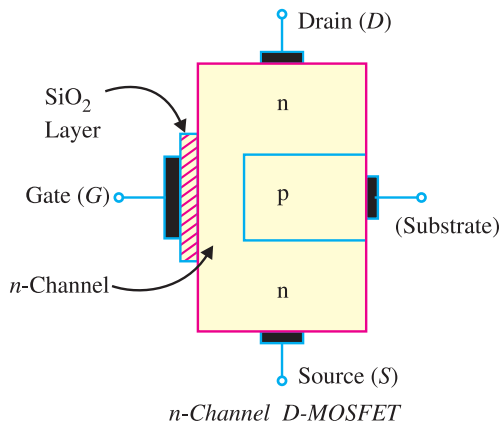

Fig. 19.43
1. D-MOSFET. Fig. 19.43 shows the constructional details of *n*-channel *D-MOSFET*. It is similar to *n*-channel *JFET* except with the following modifications/remarks :
(i) The *n*-channel *D-MOSFET* is a piece of *n*-type material with a *p*-type region (called *substrate*) on the right and an *insulated gate* on the left as shown in Fig. 19.43. The free electrons (Q it is *n*-channel) flowing from source to drain must pass through the narrow channel between the gate and the *p*-type region (*i.e.* substrate).